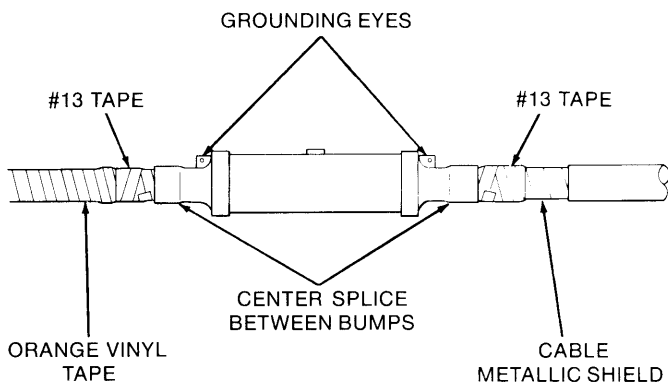

Figure 5
6. Install CI connector crimped per instructions in table on back page (8). Wipe excess contact aid from conductor and connector area: REMOVE ANY SHARP EDGES THAT MAY EXIST.
7. Slide splice body into final position over connector, using bumps formed on splice ends as guides for centering (Figure 5).